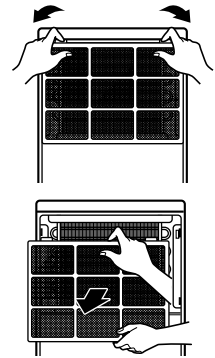

Figure 8
4. Pressing the hooks, pull out the air filter. (See Figure 8)